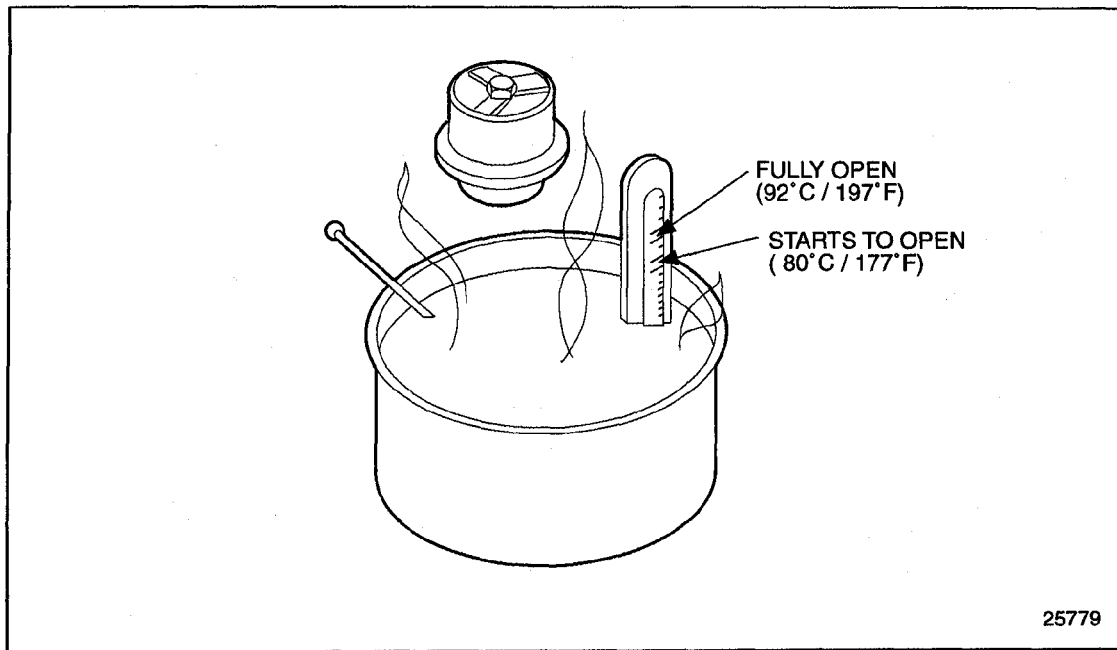

Figure 4-75 Checking Thermostat Operation
1. Immerse the thermostat in a metal container of water. See Figure 4-75.